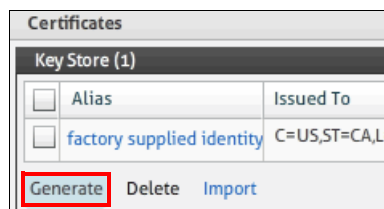

Figure 5-43 Generate self-signed certificate
1. In the WMC, go to **Security** → **Certificates**, and in the Key Store section click **Generate**, as shown in Figure 5-43.